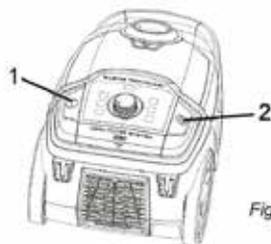

Fig.15
1. Switch off the vacuum cleaner at the on/off switch (Fig. 15/1) and pull the plug from the mains socket.
3. To retract the power cord, push the cord retracting button (Fig. 15/2).